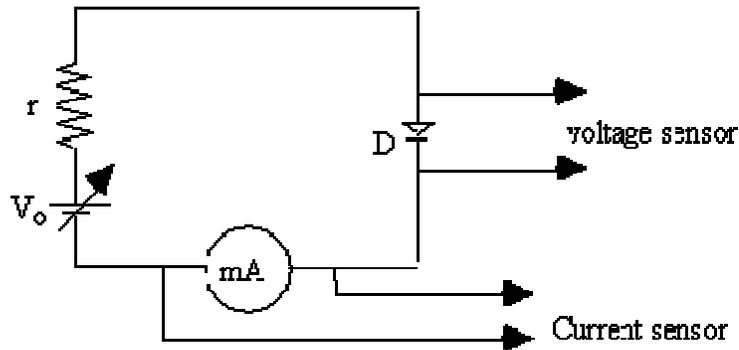

Figure 2
1. Construct a circuit shown in Figure 2 and set up the computer system for the I-V Curve experiment.